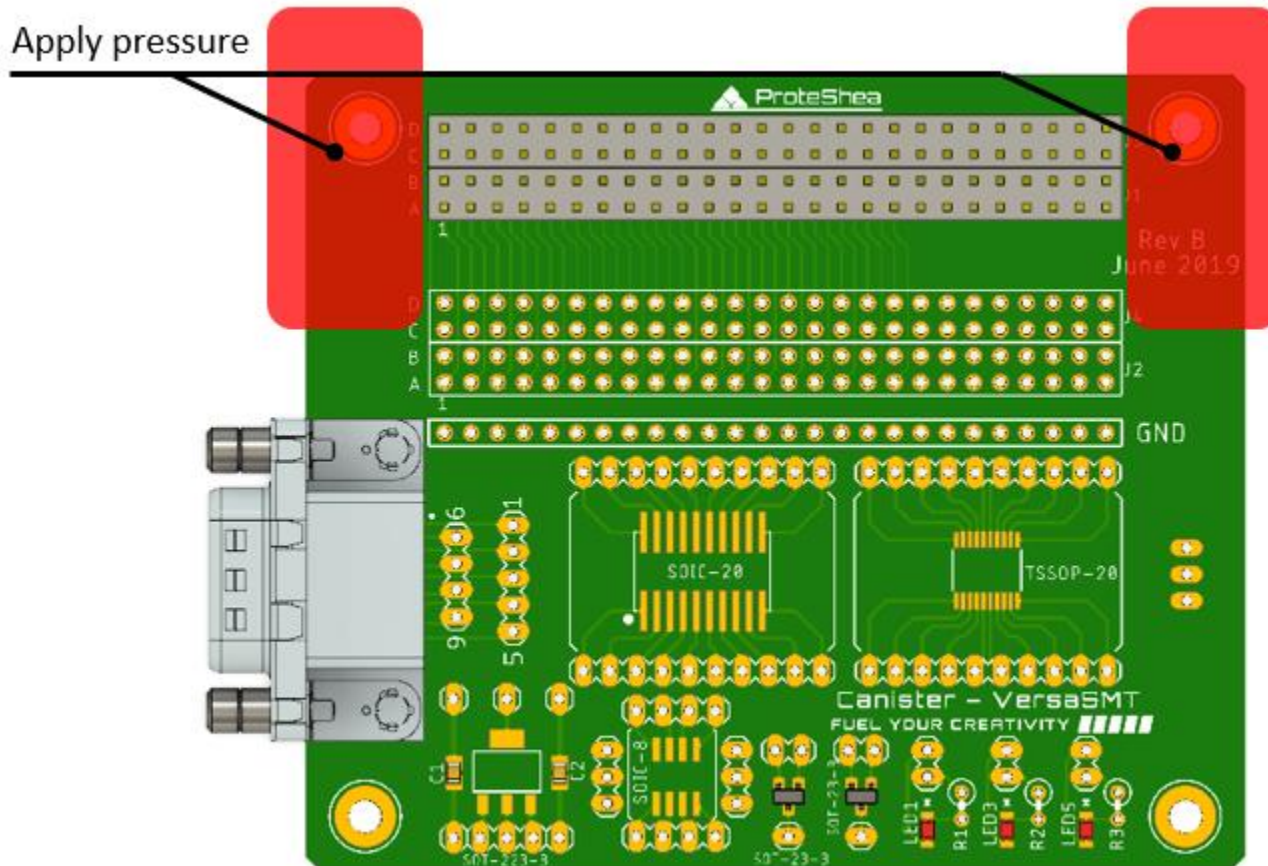

Figure 7. Areas to Apply Pressure for Installation or Removal.
7. Use two hands and apply even pressure on both sides of the Canister (areas marked in red in Fig. 7) to press into Main Interface board or another Canister board.